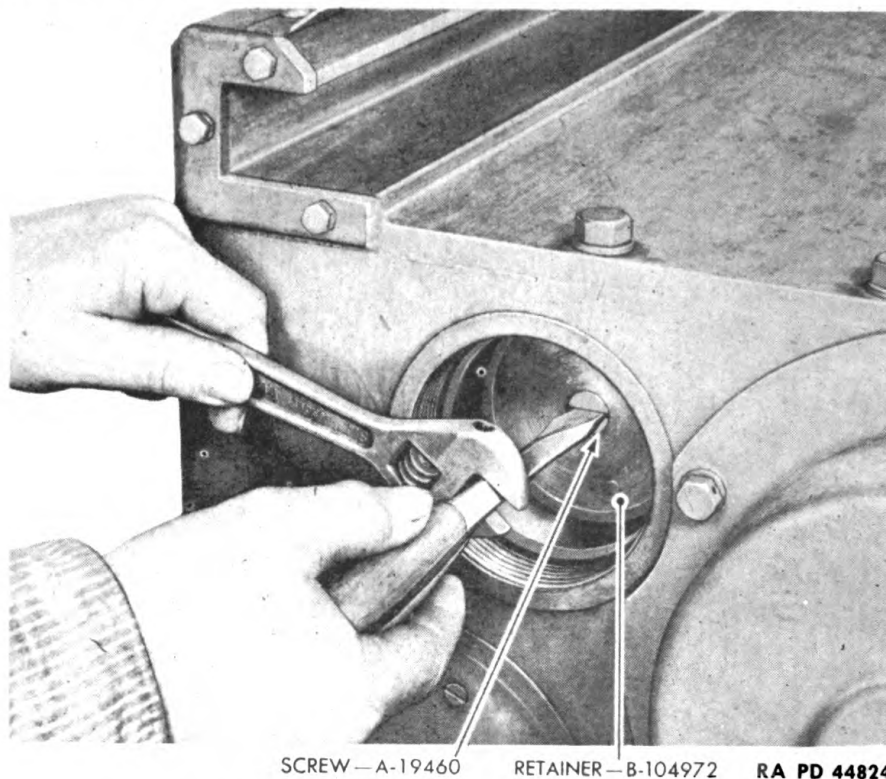

Figure 137—Removing Wiper Retainer Screw
(2) Remove screw A19460 from wiper retainer B104972 (fig. 137).